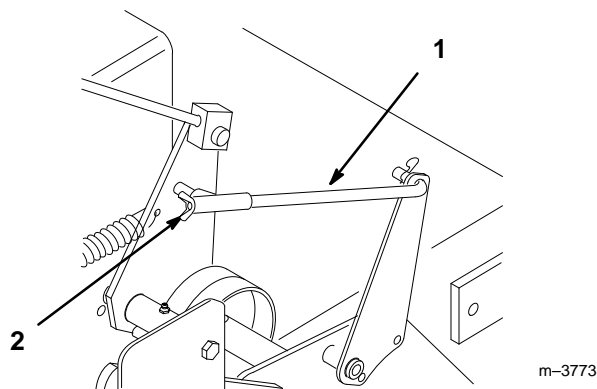

Figure 39
3. To adjust brake set the parking brake latch, and rotate the wing nuts on the brake rods (Fig. 39). Clockwise to tighten the brake and counterclockwise to loosen the brake.